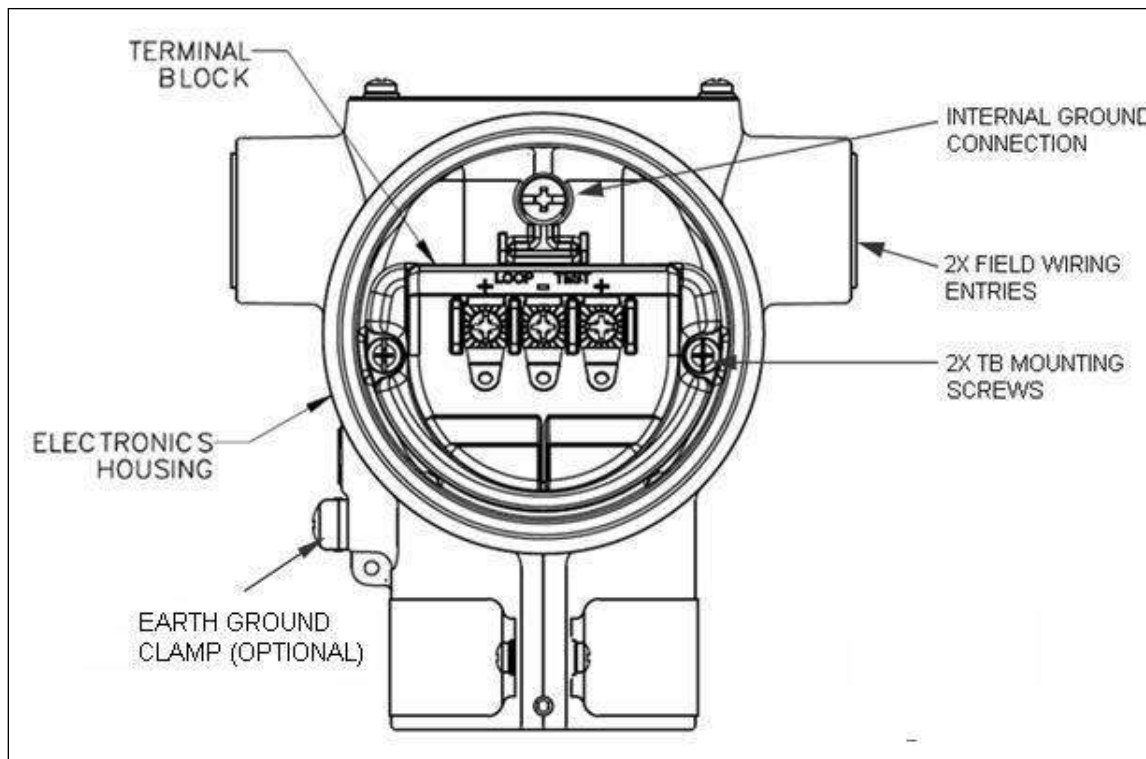

Figure 15 – ST 700 Standard Transmitter - 3-Screw Terminal Board and Grounding Screw
Loop wiring is connected to the Transmitter by simply attaching the positive (+) and negative (–) loop wires to the positive (+) and negative (–) terminals on the Transmitter terminal block in the Electronics Housing shown in Figure 15.
As shown in Figure 15, each Transmitter has an internal terminal to connect it to earth ground. Optionally, a ground terminal can be added to the outside of the Electronics Housing. While it is not necessary to ground the Transmitter for proper operation, doing so tends to minimize the possible effects of noise on the output signal and affords protection against lightning and static discharge. An optional lightning terminal block can be installed in place of the non-lightning terminal block for Transmitters that will be installed in an area that is highly susceptible to lightning strikes.
1. See Figure 15, above, for parts locations. Loosen the end cap lock using a 1.5mm Allen wrench.
If your Transmitter includes the optional lightning protection, connect a wire from the Earth Ground Clamp (see Figure 15) to Earth Ground to make the protection effective. Use a size 8 AWG or (8.37mm2) bare or green covered wire for this connection.